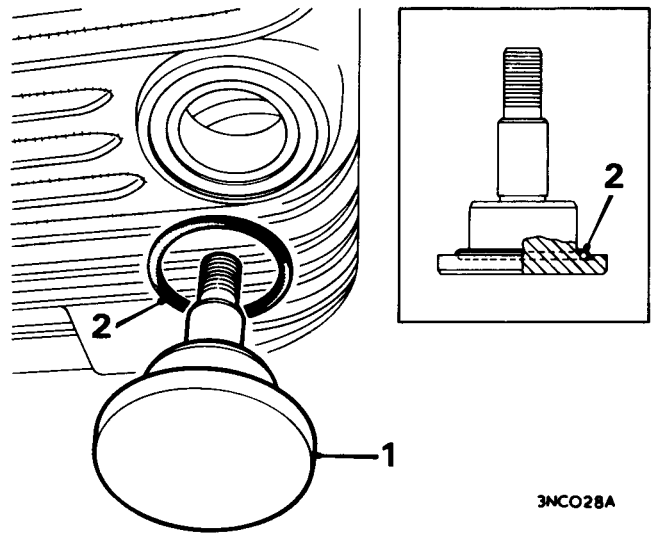

Fig. F.20
40. Drift the bellcrank lever pivot post out of the gearbox casing if the 'O' ring oil seal is to be renewed, Fig. F.20.
53. Lubricate and fit a new 'O' ring oil seal onto the bellcrank lever pivot post and drift it into the gearbox casing, Fig. F.20.